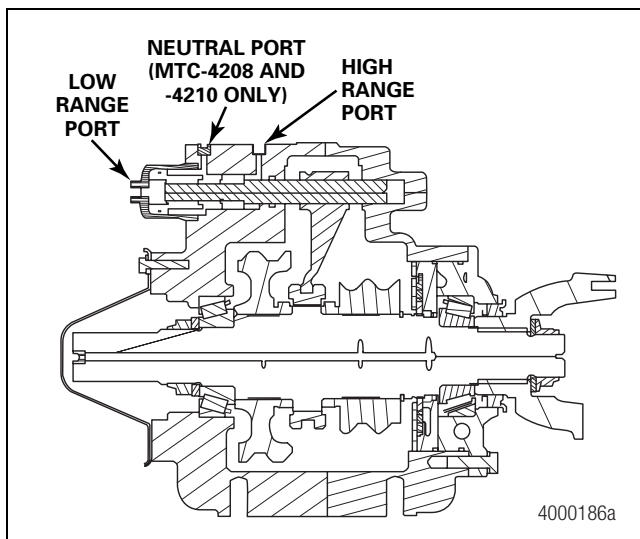

Figure 4.4
- A. Disconnect the air lines used to shift in the previous steps. Figure 4.4.